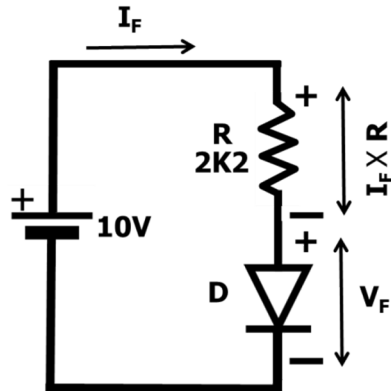
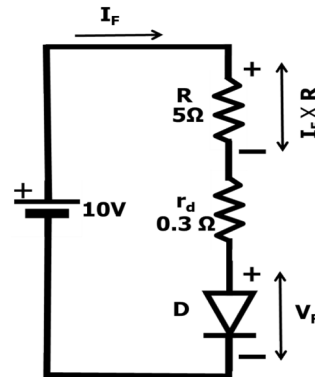

Fig 2.14
Fig 2.15
**Problem 2.6:** In the circuit shown in fig 2.14, calculate  $I_F$  . (Unless otherwise mentioned, the diode is silicon by default.)
**Problem 2.7:** For the same circuit in fig 2.14, what is the new  $I_F$  if the diode has a dynamic resistance of  $0.3 \Omega$  and  $R = 5 \Omega$  . The circuit is redrawn in fig 2.15.